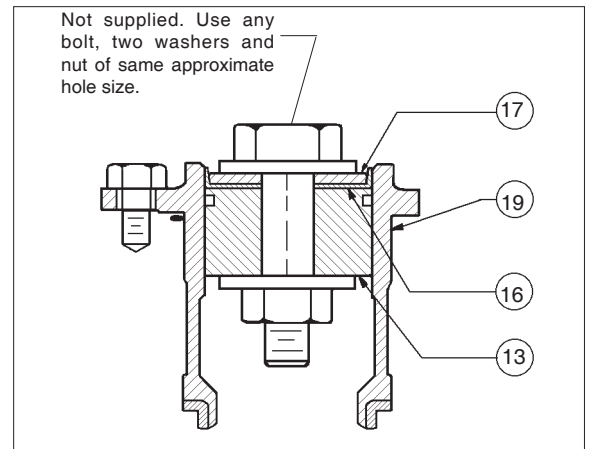

Figure 3: Temporary Wiper Seal Assembly
- Cage (19);
- 16 rms finish on cylinder bore. No "ledges" formed due to wear from moving dynamic side seal (27) or wiper seal (16).
- Lower guide bushing (24) (non-replaceable):
- Max 0.015 inch (0.38 mm) clearance between plug (20) spindle and lower guide bushing (24).
- When replacing the wiper seal (16), the replacement wiper seal (16) is "pre-formed". It may, however, require re-forming. Under normal circumstances, this step may not be required. If needed, reform the wiper seal (16) by pressing the temporary assembly of parts into the cage (19) backwards as shown in Figure 3. The wiper seal (16) is best left in this position overnight (minimum of two (2) hours) prior to final reassembly.
- After re-forming the wiper seal, remove parts (13, 16, 17) from cage (19) and disassemble this temporary assembly.